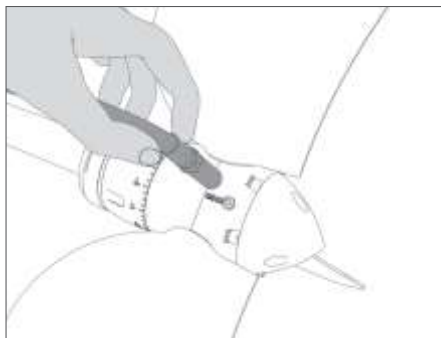

FIG. 44 Grease tube connection
- Fit the nozzle of the grease tube onto the grease nipple (**Fig. 44**).